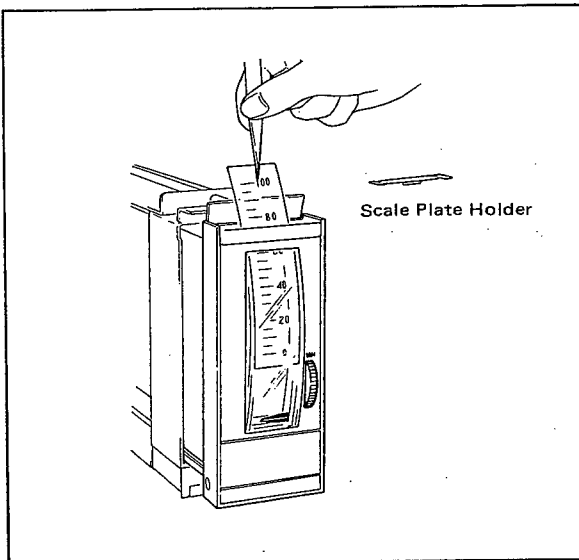

Figure 6-6. Scale Plate Replacement.
- (1) Slightly pull the internal instrument out of the housing, and open the front upper cover upward.
- (2) After removing the scale plate holder with tweezers, pull out the scale plate. See Figure 6-6.
- (3) Insert a new scale plate and mount the scale plate holder.